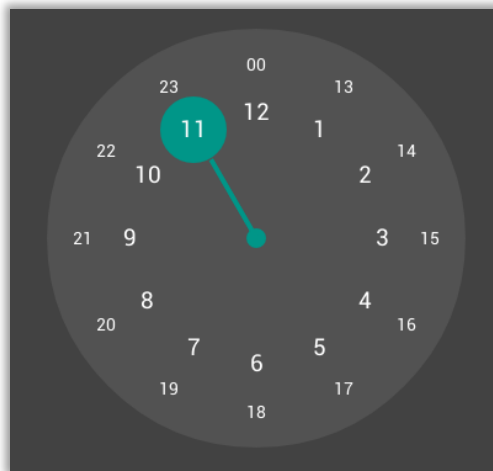

Fig. 63 : Clock Window
- I The hour in the range of 00-24 to be adjusted is selected (Figure 63).